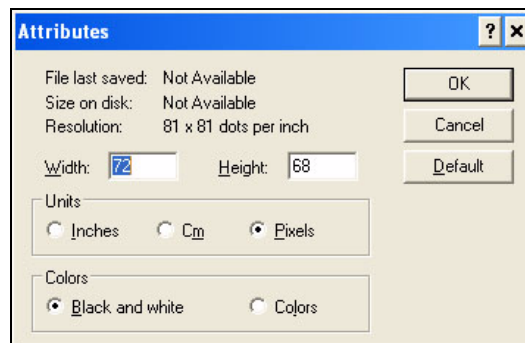

Figure 5-59: Image Attributes
- c. Select the colour format of the image as *Black and White*.(See Figure 5-59)